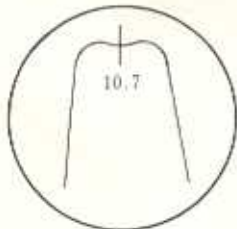

Fig. 3
(1) RF Amplifier
(2) First IF Amplifier
- Set the frequency of the sweep generator to 10.7 MHz, and apply output from the generator. Adjust T_{101} until the scope pattern illustrated in Figure 3 is obtained.